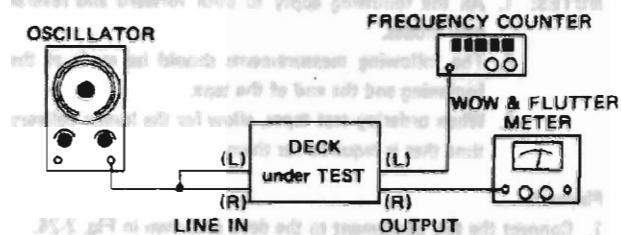

Fig. 2-24
- Connect the test equipment to the deck as shown in Fig. 2-24.